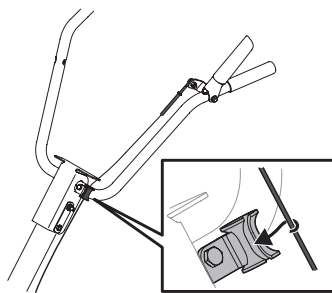

Figure 7
5. When the handle is in place, insert the clutch cable into the cable guide on the handle as shown in Figure 7.